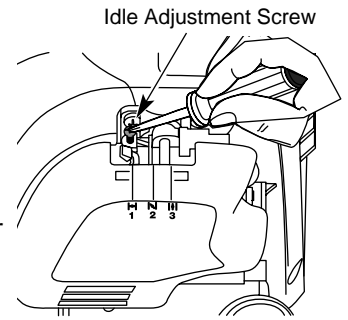

Fig. 51
The idle speed of the engine is adjustable. An idle adjustment screw is between the air filter cover and the engine starter housing (Fig. 51).
2. Release the throttle trigger and let the engine idle. If the engine stops, insert a small phillips in between the Air Filter Cover and the Engine Cover (Fig. 51). Turn the idle speed screw in, clockwise, 1/8 of a turn at a time (as needed) until the engine idles smoothly.